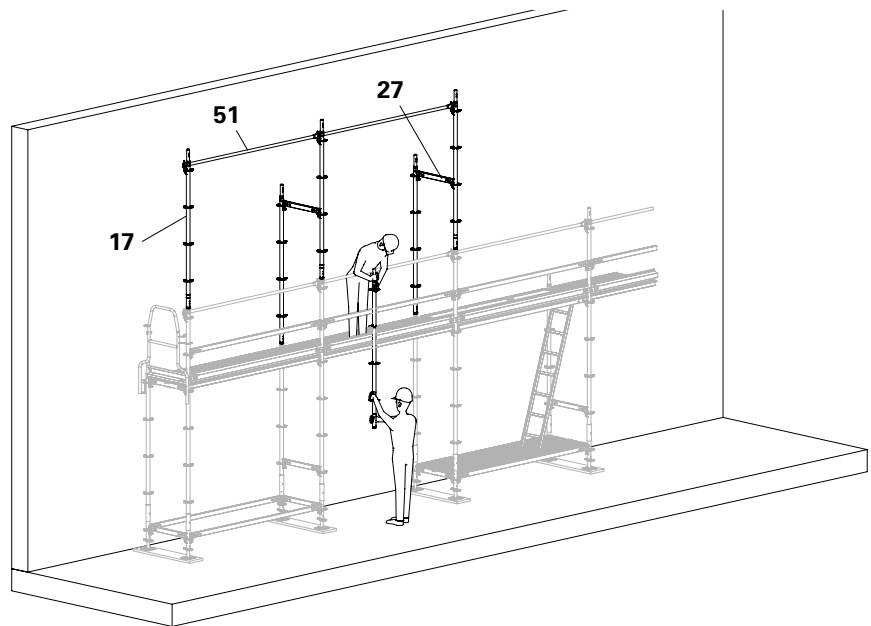

Fig. B5.03
5. Remove the standards (17) together with the top Guardrail Post EPG (51) in the reverse order of the assembly sequence. Otherwise the guardrail posts cannot be unhooked. (Fig. B5.03)